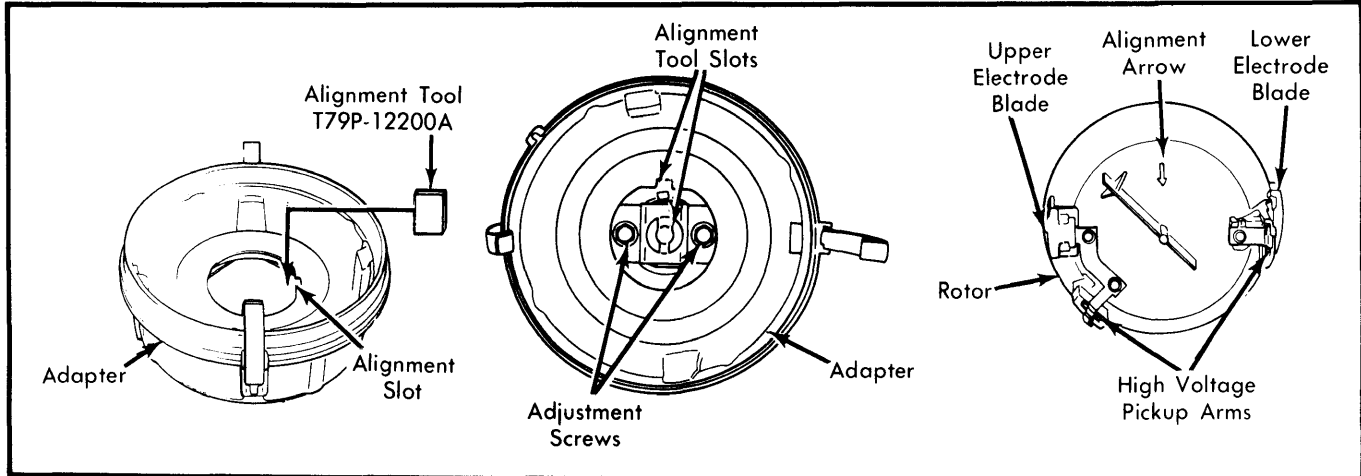

Fig. 9 EEC III Rotor, Adapter and Alignment Procedure
2) To check rotor alignment, set No. 1 piston on compression stroke, rotate crankshaft until rotor alignment tool (T79P-12200A) can be inserted into alignment slots in rotor and center of shaft. See Fig. 9. Read timing mark on damper that is aligned with pointer. If timing mark is within 4° of specification, do not reset rotor alignment. EEC models with feedback carburetors should be adjusted to TDC; those with EFI to 5° ATDC. Either adjustment may be $\pm 4^\circ$.